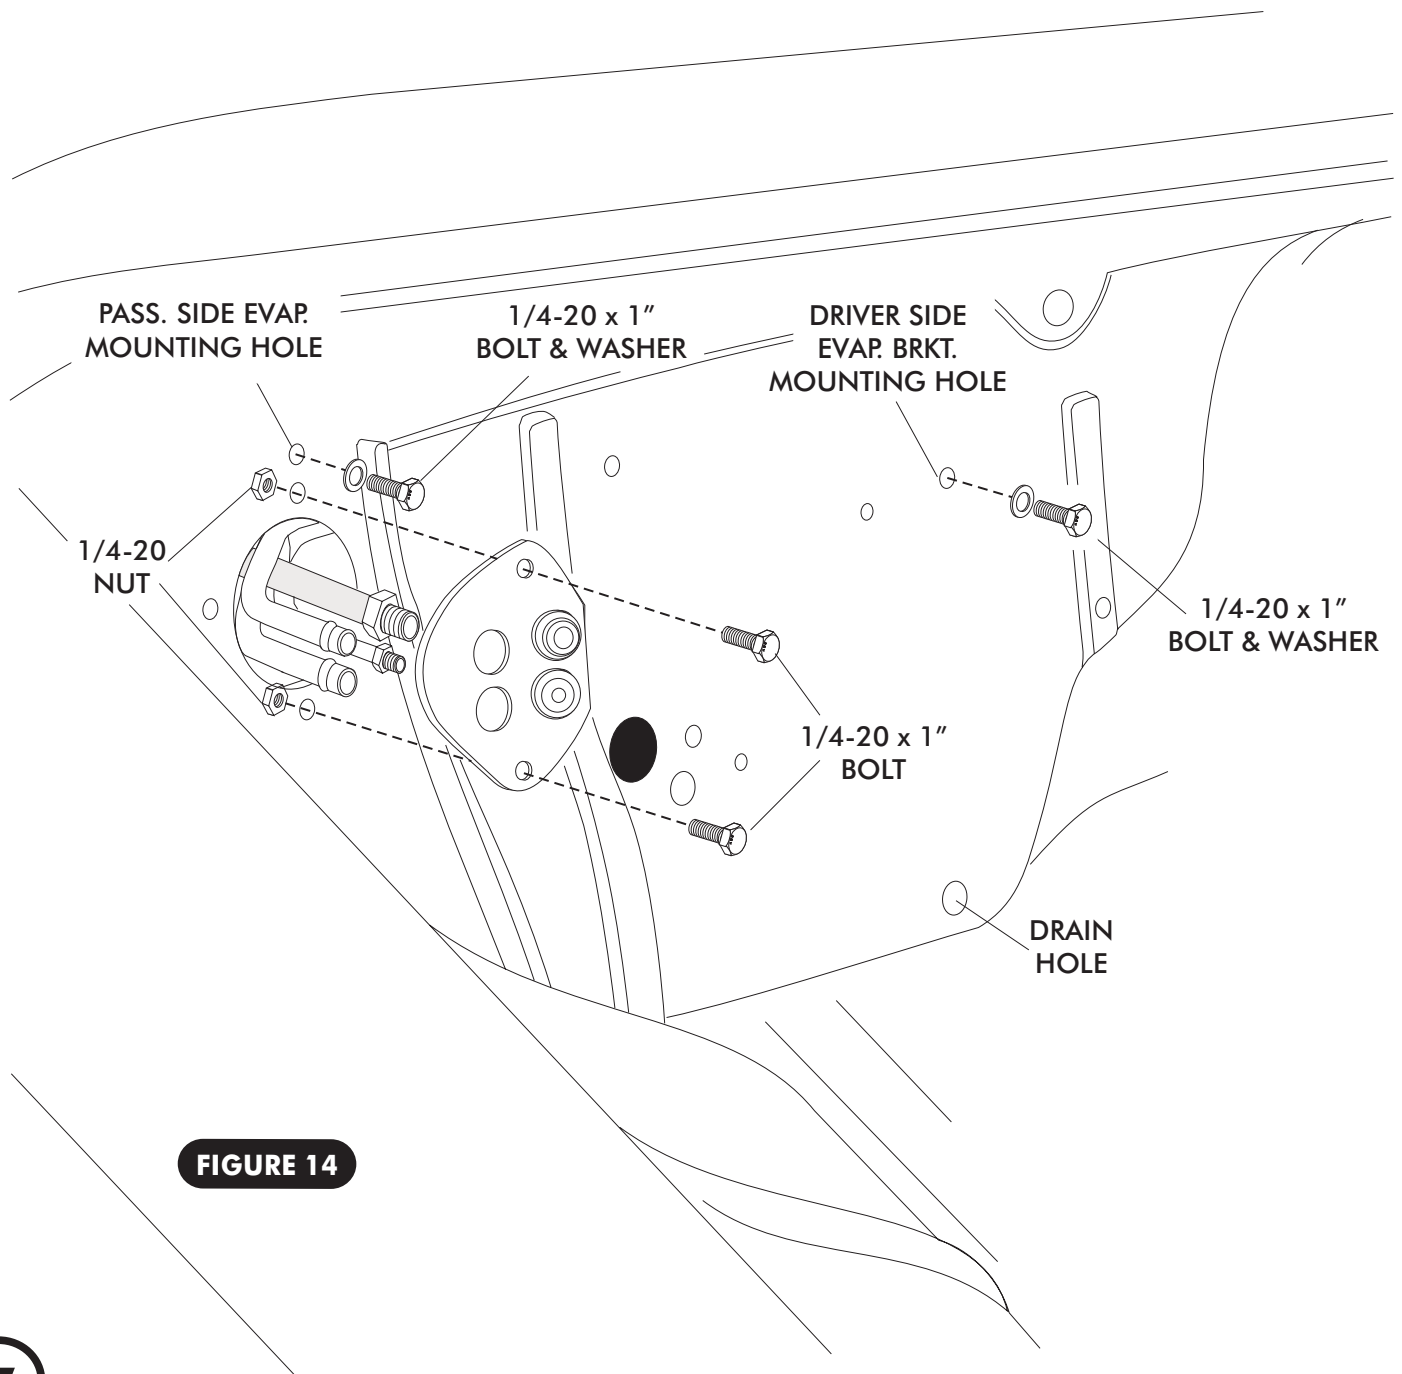

FIGURE 14
- FIGURE 14 ON PAGE 15 WILL SHOW YOU ROUGHLY THE HOLE LOCATION.
- INSTALL DRAIN HOSE TO BOTTOM OF EVAPORATOR UNIT AND ROUTE THROUGH FIREWALL. SEE FIGURE 9 AND FIGURE 14, PAGE 15.
- INSTALL FIREWALL COVER. SEE FIGURE 14, PAGE 15.
- PASS LINES THROUGH FIREWALL COVER, AND SECURE WITH (2) 1/4-20 BOLTS. SEE FIGURE 14 BELOW.